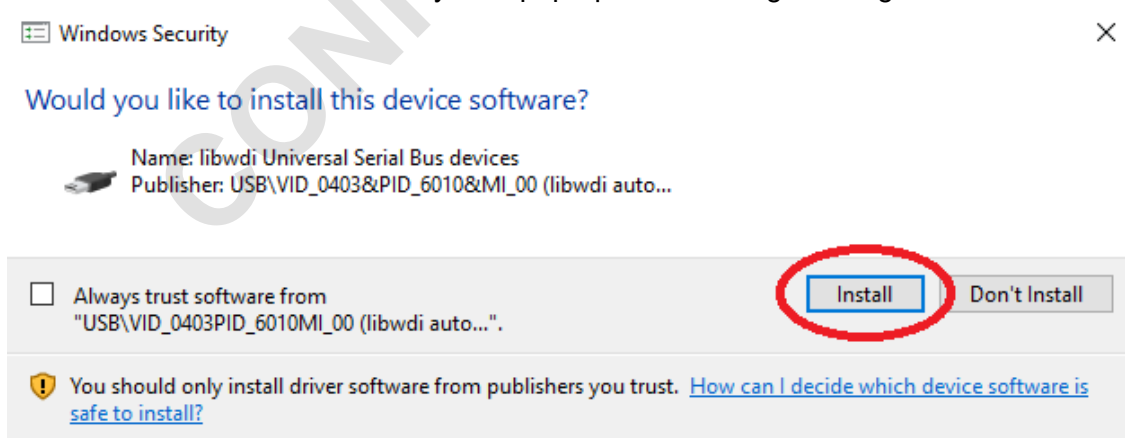

Figure 13 - Install RDI USB Driver
- Figure 13 - Install RDI USB Driver